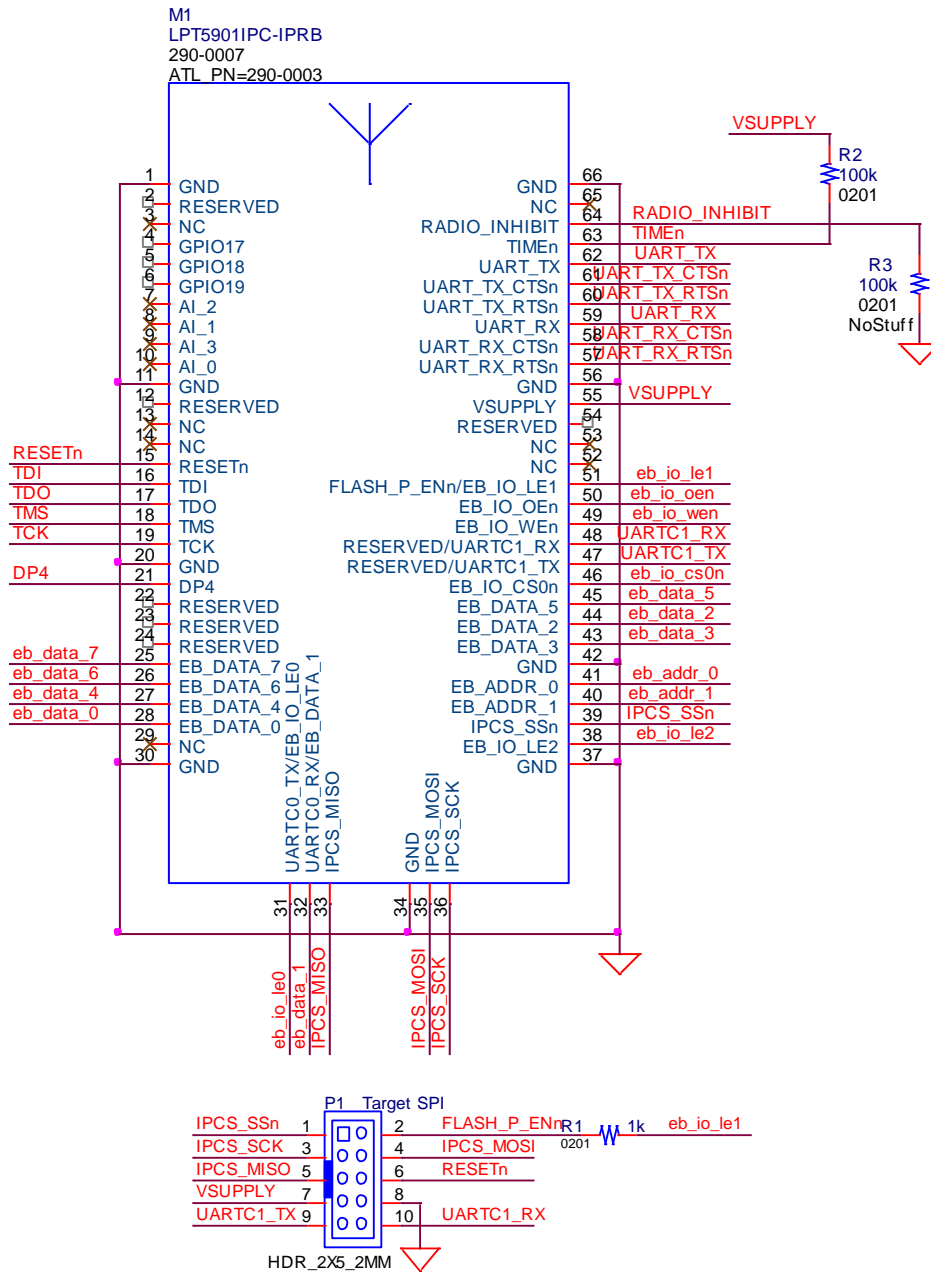
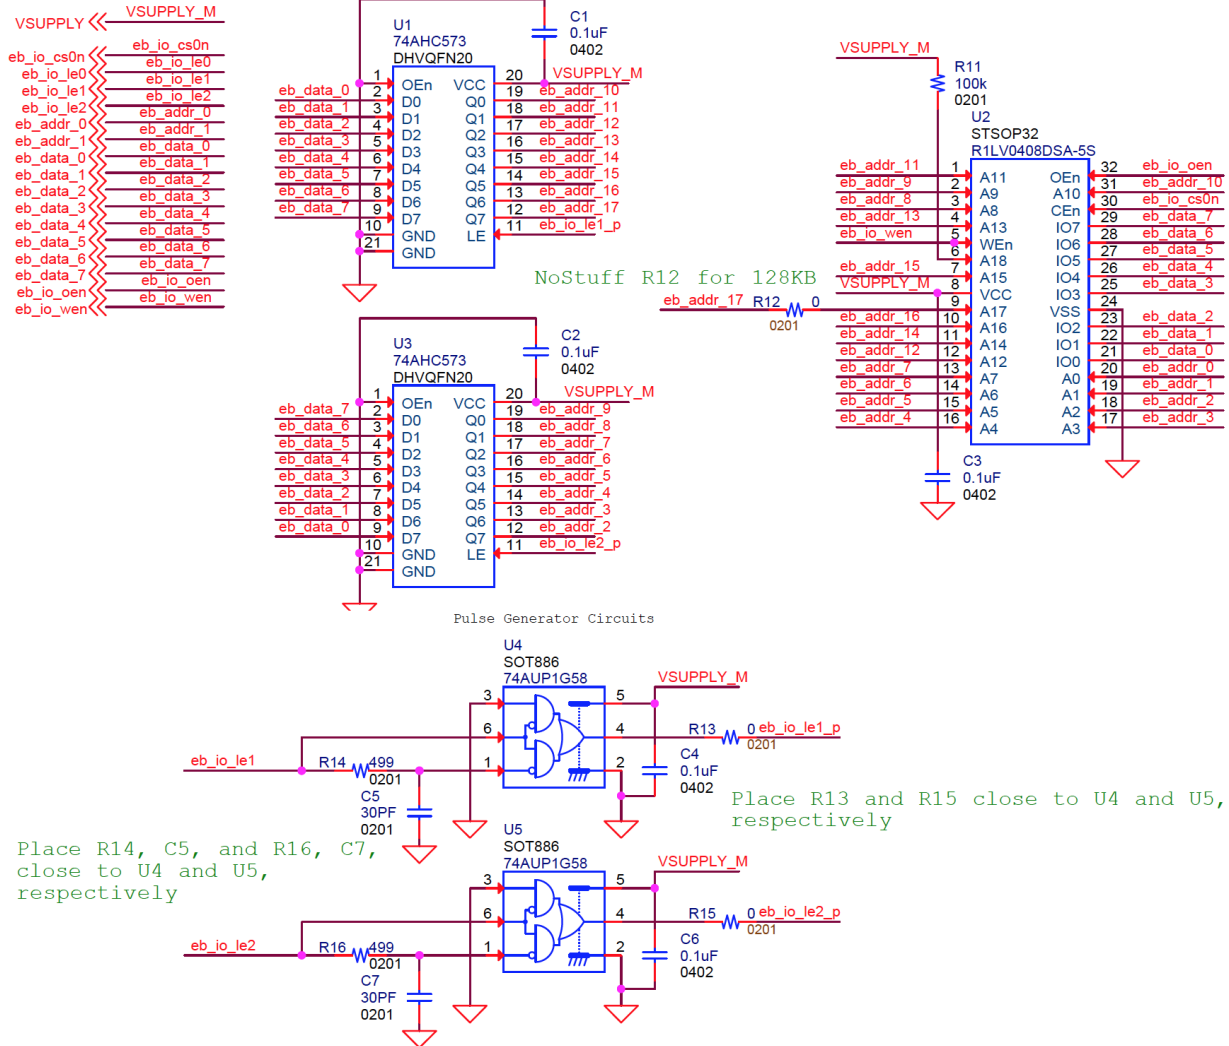

Figure 2 Eterna Extended Memory Example Schematic (page 1 of 2)
Figure 3 Eterna Extended Memory Example Schematic (page 2 of 2)
The schematic shown in Figure 2 and Figure 3 includes all the external connections and components necessary to add the external RAM. The connections differ from the configuration without external RAM as follows:
- 3) The Memory, latches and pulse generators shown in Figure 3
The schematic shown in Figure 2 and Figure 3 includes all the external connections and components necessary to add the external RAM. The connections differ from the LTP5901-IPRA as follows:
- 6) The Memory, latches and pulse generators shown in Figure 3